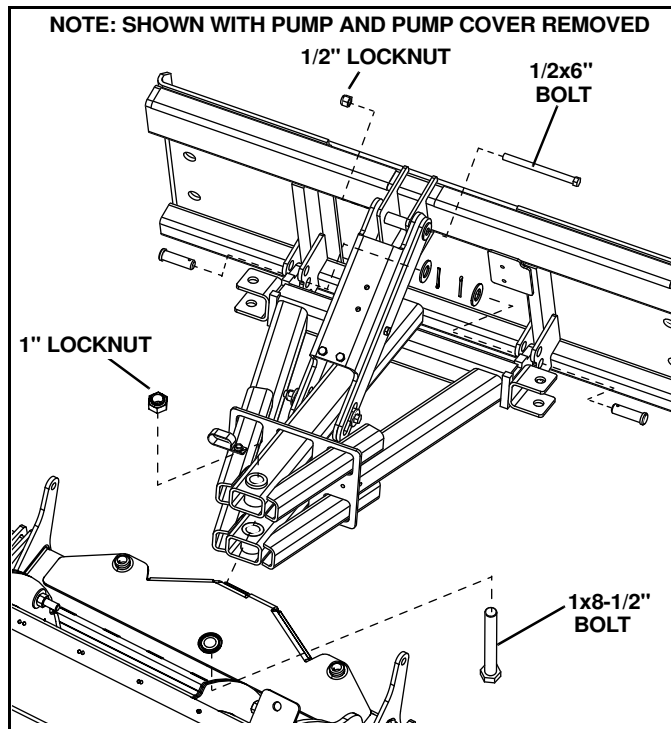

Figure 2-8
1. Install A-frame into Universal Skid Steer Adapter into center hole with 1x8-12" bolt and 1" locknut. (See Figure 2-8)
2. Connect slider link to upper mount holes in the Universal Adapter Plate with 1/2x6" bolt and 1/2" locknut. (See Figure 2-8)